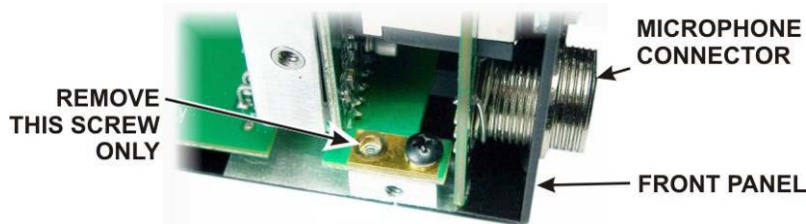

Figure 6. Removing the 2D Screw.
If you have a K3S, skip this step. If you have an older K3, remove the screw shown in Figure 6. It is located directly behind the front panel microphone connector. There may be a lock washer under the screw. If so, save it with the screw. Removing the screw ensures the pc boards on the front panel assembly will have adequate clearance when the front panel assembly is removed in a later step. Remove only the screw shown. Leave the other screw in place as shown in the figure.
- If you have a K3S, skip this step. Replace the 3/16" (4.8 mm) black pan head screw you removed earlier and, if used, lock washer in the 2D fastener (see Figure 6 on page 15).